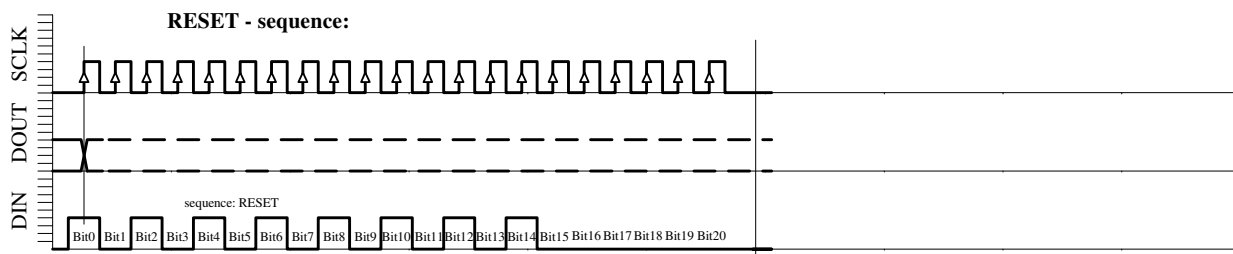

Fig. 6e: RESET sequence (21 bit).
- RESET sequence (Figure 6e)
The RESET sequence is special as the module in any state recognizes its unique pattern. By consequence, it can be used to restart if synchronization between the microcontroller and the MS5561 has been lost. This sequence is 21-bit long. The DOUT signal might change during that sequence (see Fig. 6e).